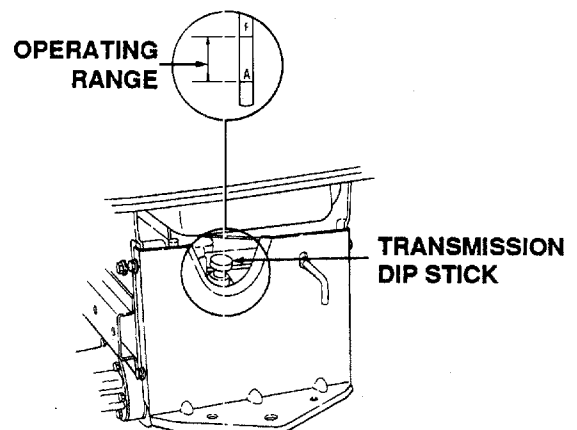

Figure 21
Check the oil level of the transmission case before each use to see that it is filled to the correct level. Before checking the transmission oil level, clean the area around the oil fill plug/dipstick to prevent debris from entering the transmission case. Always keep the oil level between the "FULL" and the "ADD" marks on the dipstick (See Figure 21). When checking the oil level, the dipstick must be withdrawn and wiped clean, then inserted all the way before being withdrawn for a true reading.
3. Remove the oil fill plug/dipstick from the oil fill port and SLOWLY pour oil into the oil fill port. Fill the transmission case until the oil level reaches the "FULL" mark on the dipstick (Refer to Figure 21).
- Remove the oil fill plug/dipstick from the oil fill port and SLOWLY pour oil into the oil fill port. Fill the transmission case until the oil level reaches the "FULL" mark on the dipstick (Refer to Figure 21).